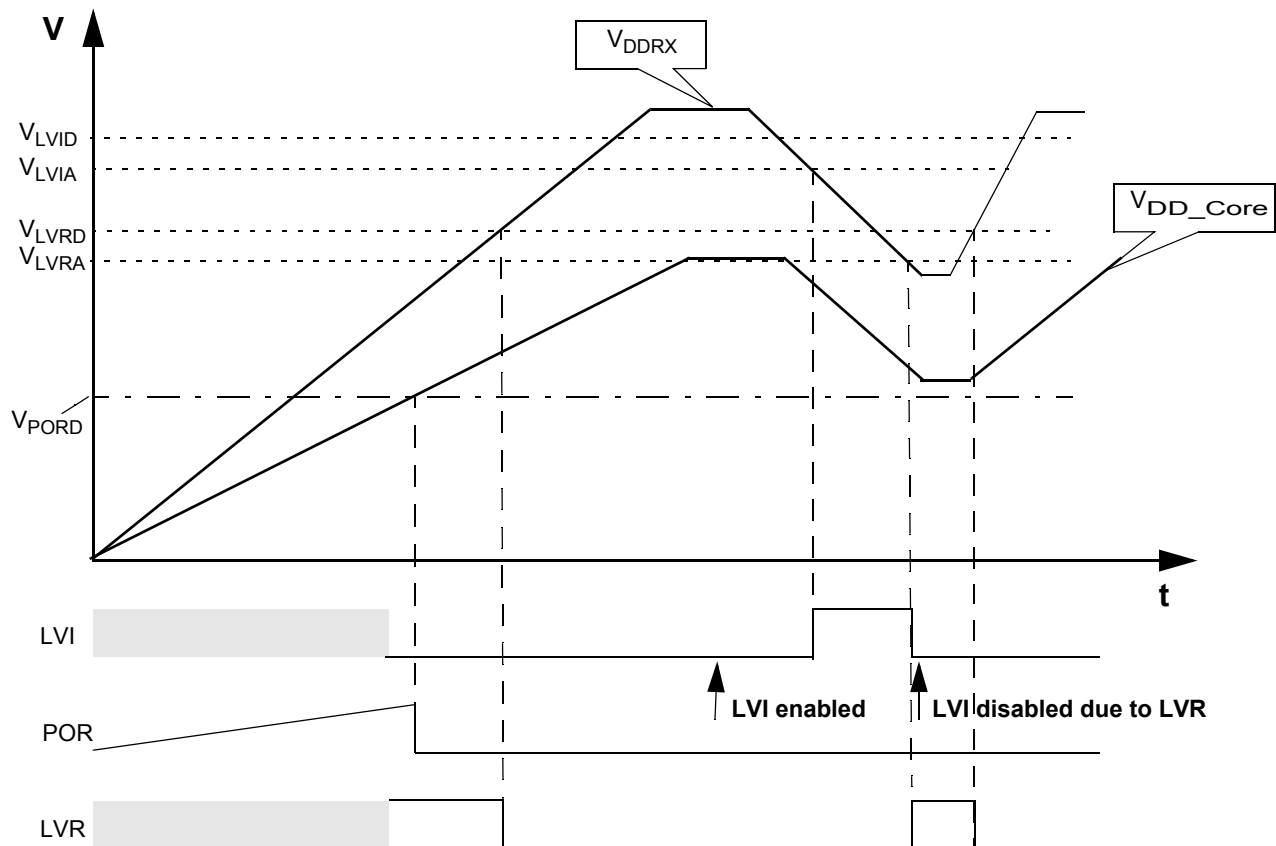

Figure 4. 9S12132 - Chip Power-up and Voltage Drops (not scaled)
34. Monitors V_{DDRX} , active only in Full Performance mode. MCU is monitored by the POR in RPM (see Figure 4).